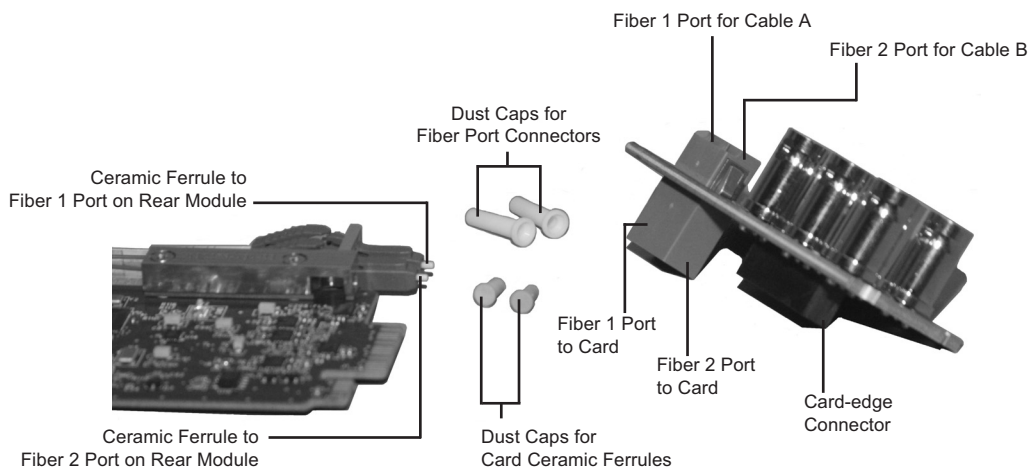

Figure 2.2 Card Connectors with Dust Caps Removed — 8320AR-044 Rear Module Shown
3. Remove the dust caps from the Fiber ports on the rear module that faces the interior of the frame. Refer to **Figure 2.2** for dust cap locations.